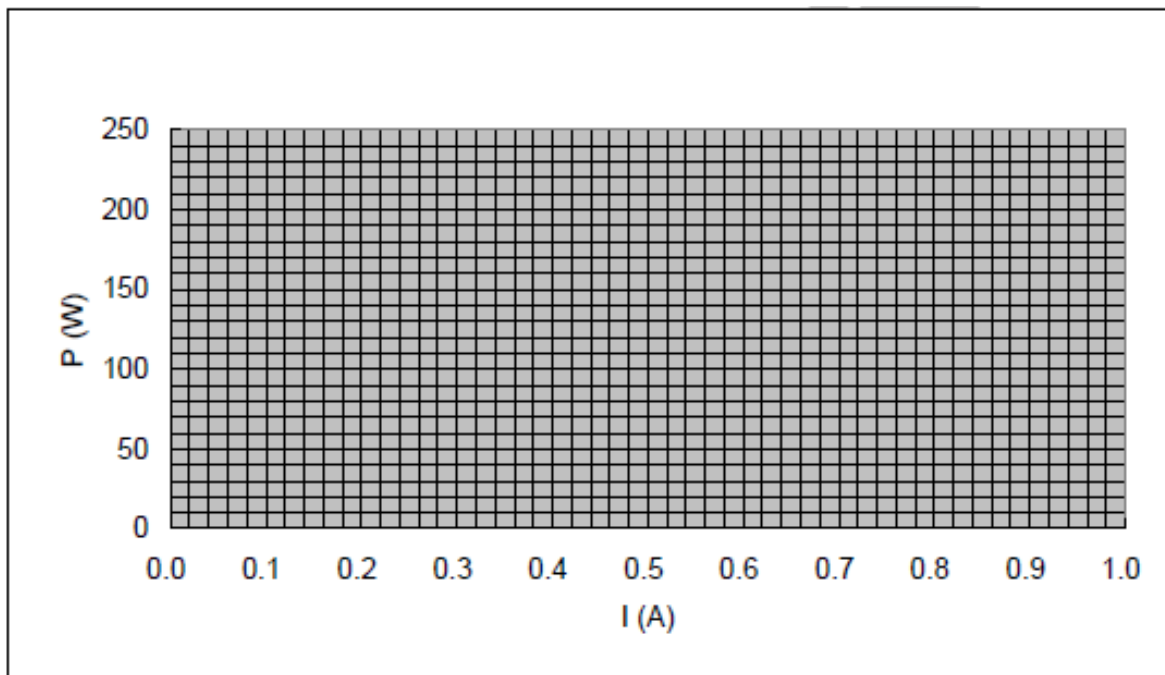

Fig. 1-4-8 The P vs I curve (resistive load)
6. Using the results of Table 1-4-1, plot the P vs I curve on the graph of Fig. 1-4-8.